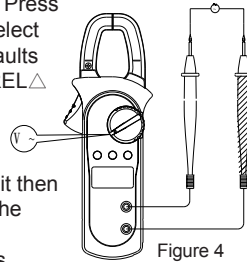

Figure 4
2. AC voltage measurement ($V \sim$) (See Figure 4)